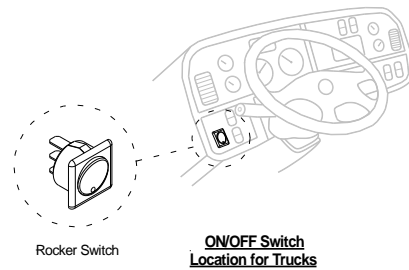

Fig. 28
1. **Turn Power Switch On (If applicable):** To activate power to the liftgate, turn the cab shutoff switch, **Fig.28.**